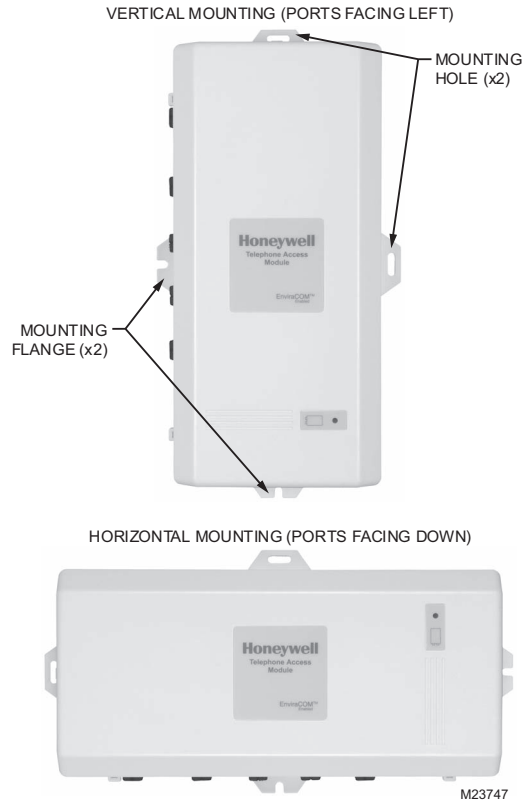

Fig. 3. W8735D Mounting Orientations.
Mount the W8735D in the equipment room near the indoor HVAC equipment. Position the W8735D horizontally so that all wiring connections face toward the floor or vertically so that the power and telephone plugs face the floor. See Fig. 3.
2. Use a pencil to mark the mounting holes to be used. The W8735D has two external mounting holes and two external flanges to accommodate a vertical or horizontal installation position. See Fig. 3.
7. A Honeywell label is provided in a bag with the W8735D. Remove the adhesive backing from the label and place it on the unit in its proper orientation as shown in Fig. 3.